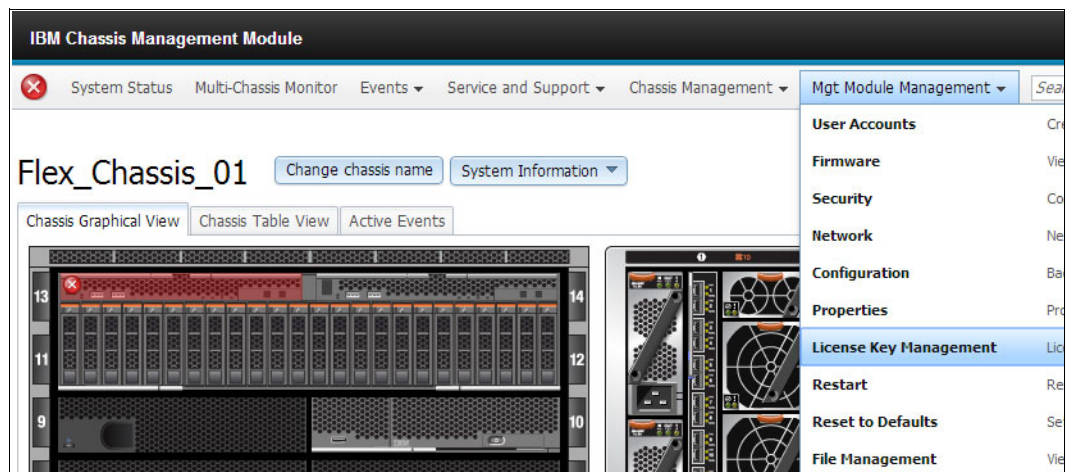

Figure 3-69 Mgt Module Management menu
- Browse to the Mgt Module Management menu, as shown in Figure 3-69.